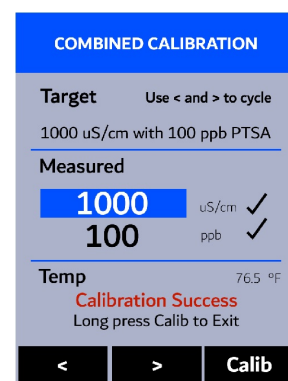

Figure 18.
10. Finally, the message “**Calibration Success**” will appear towards the bottom of the display (Figure 18).